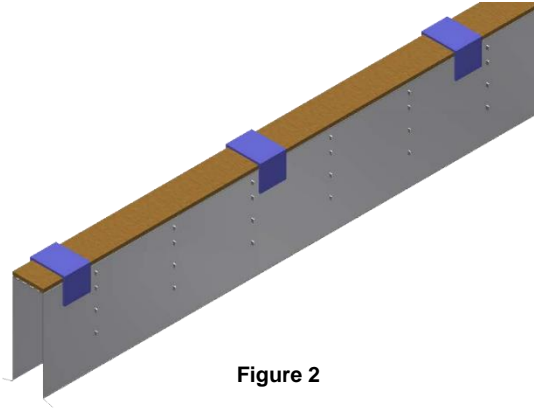

Figure 2
- Cover the slot riser opening to prevent debris from entering the system (Figure 2).